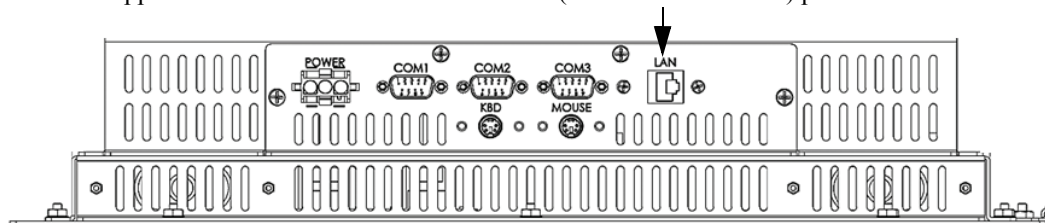

Figure 3.3 FIRSTVISION LAN Connector Location
- Step 3. Connect the customer supplied LAN cable to the LAN port as shown in Figure 3.3 on page 16.